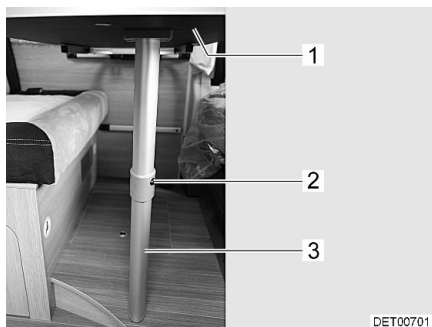

Fig. 40 Bed foundation
- Slightly raise the front of the table top (Fig. 40,1).
- Press the release knob (Fig. 40,2) and fold the lower part of the fold-out leg (Fig. 40,3) by 90°.